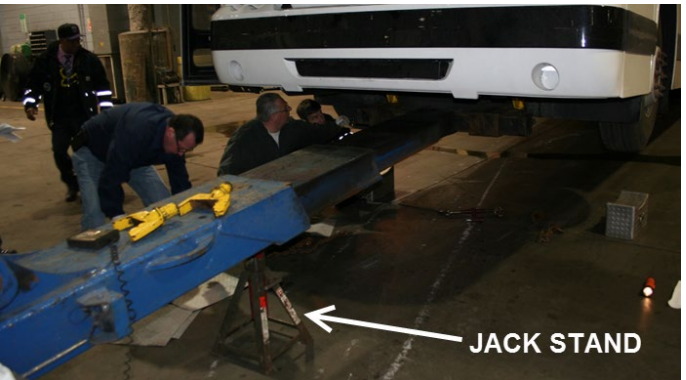

FIGURE 36
7. Install a jack stand under the stinger arm for support and safety purposes and then lower the stinger arm so it rests on the jack stand (Figure 36). The tow cans or blocks can be removed from under the front axle wheels.